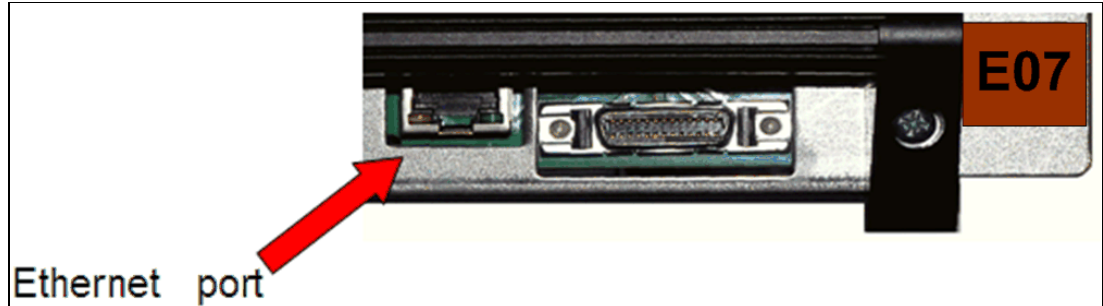

Figure 3-22 TS1140 Ethernet port
The Ethernet port is used in the TS1140 Rack mount configuration when in a TS3500 tape library configuration the TS3500 tape library management interface (MI) can be used to manage the TS1140 instead. Figure 3-22 on page 193 shows the location of the Ethernet port.
The 3592-E07 canister no longer has an RS-232 serial port. An Ethernet service port was added to the drive, which is for service, and use by the user. It provides the capability for users to access advanced drive status pages and for service personnel to access a drive virtual operator panel and perform firmware uploads and download drive memory dumps. It is a single, standard RJ45 connector at the rear of the canister, as shown in Figure 3-22.